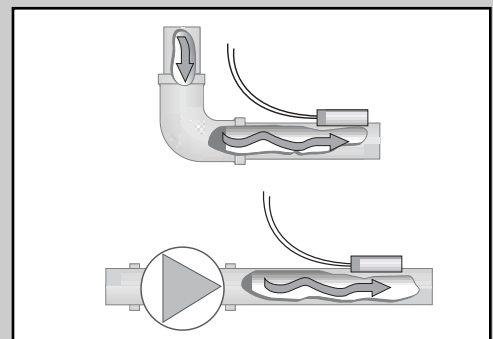

Figure 2-23
3. Place the Universal Sensor downstream of a pump or after an elbow or similar fitting. The minimum distance is two pipe diameters for 2" pipe or smaller. Proper sensor location requires that the fluid is thoroughly mixed within the pipe before it reaches the sensor. (See Figure 2-23.)